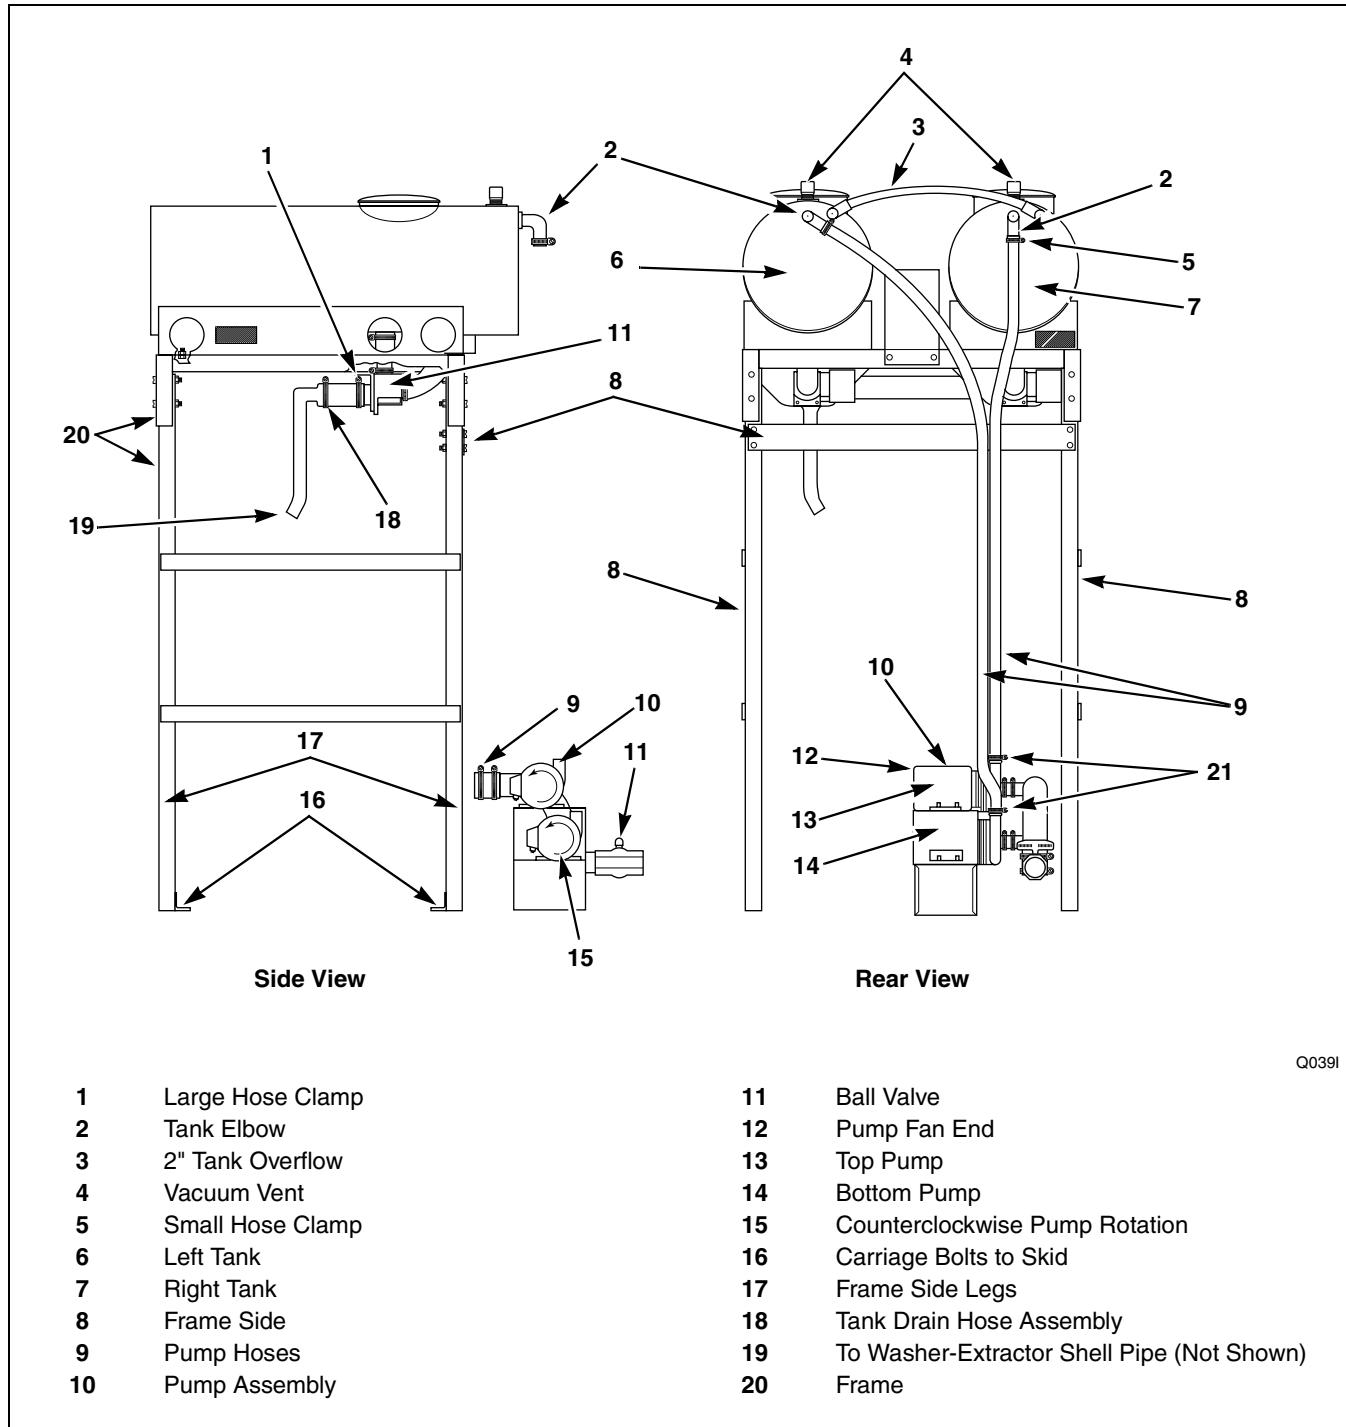

Figure 5
2. Installing the pump assembly (refer to *Figure 5*):
- c. Install large manifold hose clamp at the rear of washer-extractor and tighten. Refer to *Figure 5*.
Improper rotation will cause the pump to fail, resulting in increased cycle time. Refer to rotation arrow decal on pump and *Figure 5*. Rotation may be corrected by exchanging two 3-phase power wires on the load side of the respective contactor, located in the remote-mounted WSS control module.
- b. Slide on the pump hose to the appropriate pump (top pump to right tank, bottom pump to left tank as viewed from rear) and tank elbow at the rear of each tank. Refer to *Figure 5*. Tighten the small hose clamps.
Improper rotation will cause the pump to fail resulting in increased cycle time. Refer to rotation arrow on pump in *Figure 5*. Rotation may be corrected by exchanging two 3-phase power wires at input power terminal block then recheck each pump separately.